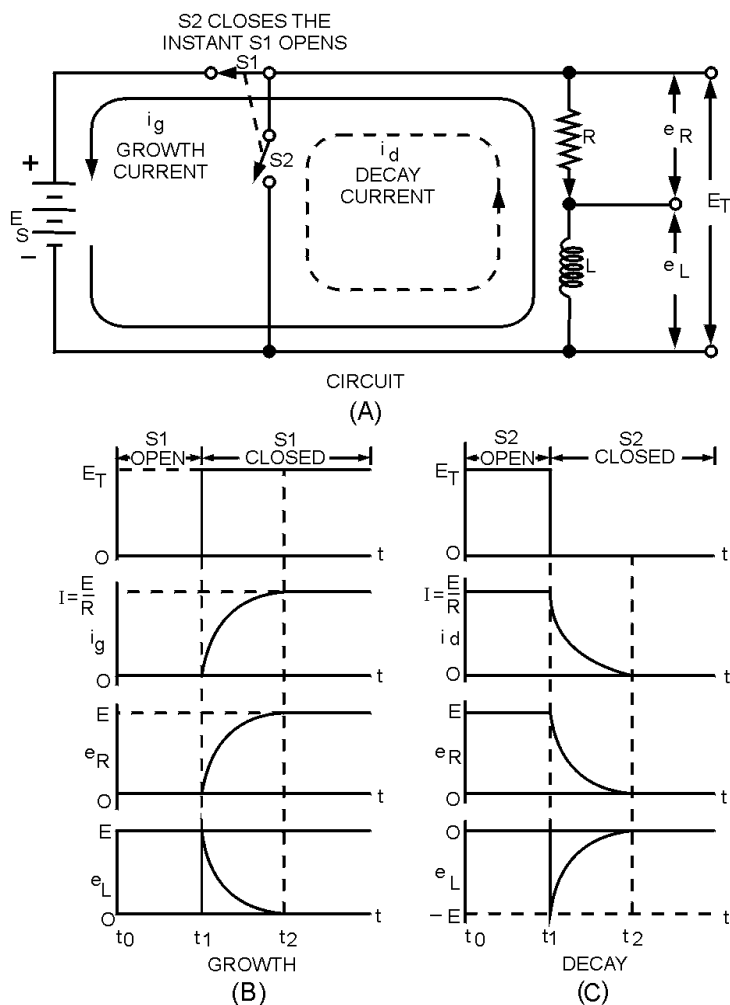

Figure 2-10.—Growth and decay of current in an LR series circuit.
A voltage divider containing resistance and inductance may be connected in a circuit by means of a special switch, as shown in figure 2-10(A). Such a series arrangement is called an LR series circuit.
When switch  $S_1$  is closed (as shown), a voltage  $E_S$  appears across the voltage divider. At this instant the current will attempt to increase to its maximum value. However, this instantaneous current change causes coil  $L$  to produce a back EMF, which is opposite in polarity and almost equal to the EMF of the source. This back EMF opposes the rapid current change. Figure 2-10(B) shows that at the instant switch  $S_1$  is closed, there is no measurable growth current ( $i_g$ ), a minimum voltage drop is across resistor  $R$ , and maximum voltage exists across inductor  $L$ .
growth current ( $i_g$ ) is increased and consequently  $e_R$  is increased. Figure 2-10(B) shows that the voltage across the inductor ( $e_L$ ) finally becomes zero when the growth current ( $i_g$ ) stops increasing, while the voltage across the resistor ( $e_R$ ) builds up to a value equal to the source voltage ( $E_S$ ).
When the battery switch ( $S_1$ ) in the LR circuit of figure 2-10(A) is closed, the rate of the current increase is maximum in the inductive circuit. At this instant all the battery voltage is used in overcoming the emf of self-induction which is a maximum because the rate of change of current is maximum. Thus the battery voltage is equal to the drop across the inductor and the voltage across the resistor is zero. As time goes on more of the battery voltage appears across the resistor and less across the inductor. The rate of change of current is less and the induced emf is less. As the steady-state condition of the current is approached, the drop across the inductor approaches zero and all of the battery voltage is "dropped" across the resistance of the circuit.
Figure 2-10(C) shows that when switch  $S_2$  is closed (source voltage  $E_S$  removed from the circuit), the flux that has been established around the inductor ( $L$ ) collapses through the windings. This induces a voltage  $e_L$  in the inductor that has a polarity opposite to  $E_S$  and is essentially equal to  $E_S$  in magnitude. The induced voltage causes decay current ( $i_d$ ) to flow in resistor  $R$  in the same direction in which current was flowing originally (when  $S_1$  was closed). A voltage ( $e_R$ ) that is initially equal to source voltage ( $E_S$ ) is developed across  $R$ . The voltage across the resistor ( $e_R$ ) rapidly falls to zero as the voltage across the inductor ( $e_L$ ) falls to zero due to the collapsing flux.